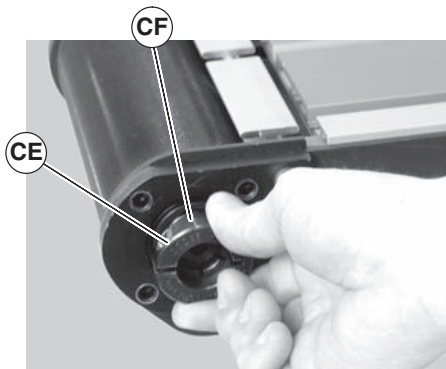
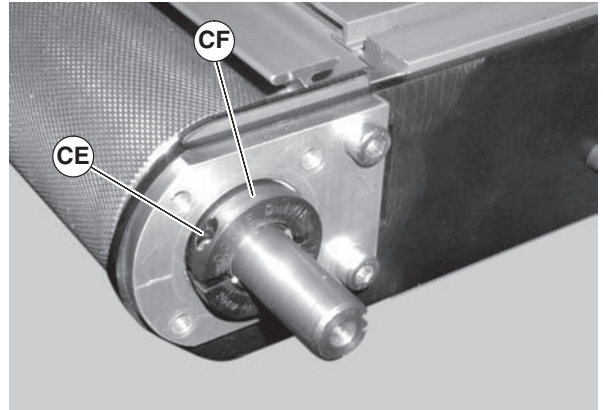

Figure 69
Figure 70
4. Loosen the bearing collar set screw (Figure 69, item CE) and remove bearing collar (CF). Repeat on drive shaft side of pulley (Figure 70, item CE and CF).